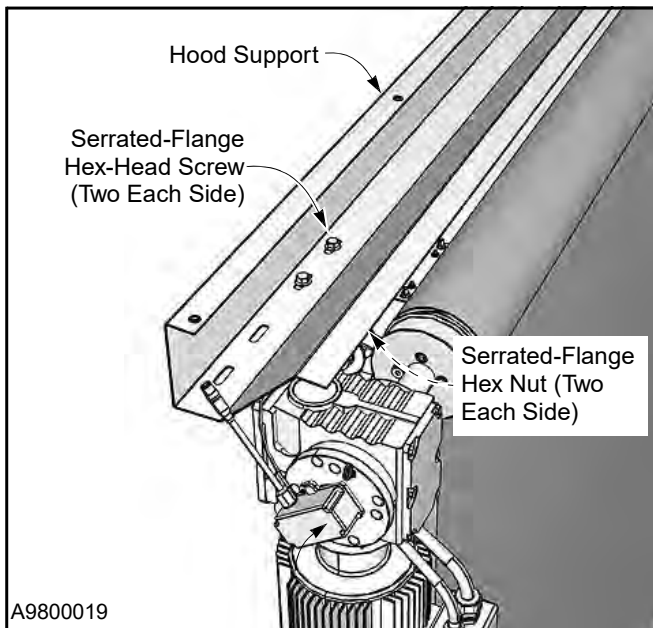

Figure 30
1. Attach the hood support assembly to the top of the side columns using two  $\frac{3}{8}$ -16 x 1-in. serrated-flange hex screws and nuts on each end. (See Figure 30)